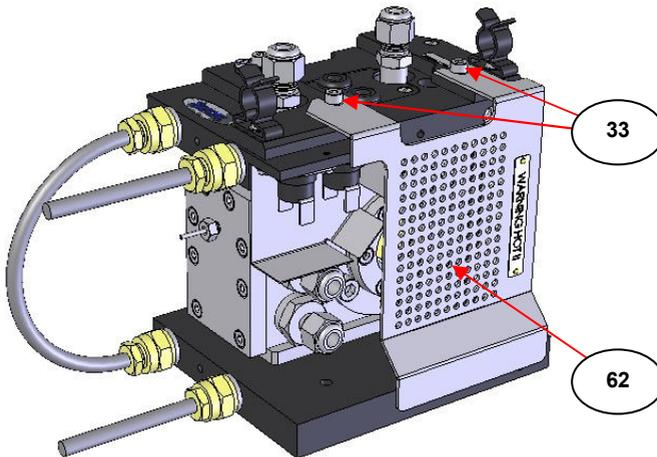

Fig 12. Heat Shield Fitted for Reflectance Mode of Operation
The two heat shields (31) and (32) from the HTHP Cell will need to be removed (if these are fitted), for the reflectance mode of operation. Subsequently, the alternative heat shield (62) provided for the reflective mode of operation will need to be fitted in position replacing the large heat shield (32) and the side support bracket (67) and short side support plate (68) are fitted to the upper water cooled plate (1) that requires removal of the small heat shield (31). At this stage, before fitting the wedged window assembly (56), the new heat shield (62) can be fitted now over the plane window assembly (11) that is being retained on the HTHP Cell body (3). The two cap head fixing screws (33) for the heat shield (62) are tightened to hold it in position as shown for **Fig 12**.
Remove the plane window assembly (11) from the side of the HTHP Cell that **does not** contain the side inlet gas ports (13) and (14). (The side opposite to that shown for **Fig 12.**). This is achieved by unscrewing the six M6 x 10mm cap head fixing bolts (30) using the 5mm A/F hexagon key bit and torque wrench supplied. (Please refer to the HTHP Cell instruction manual 2I-05850-16, pages 38 to 44, for removal and fitting of window assemblies.)